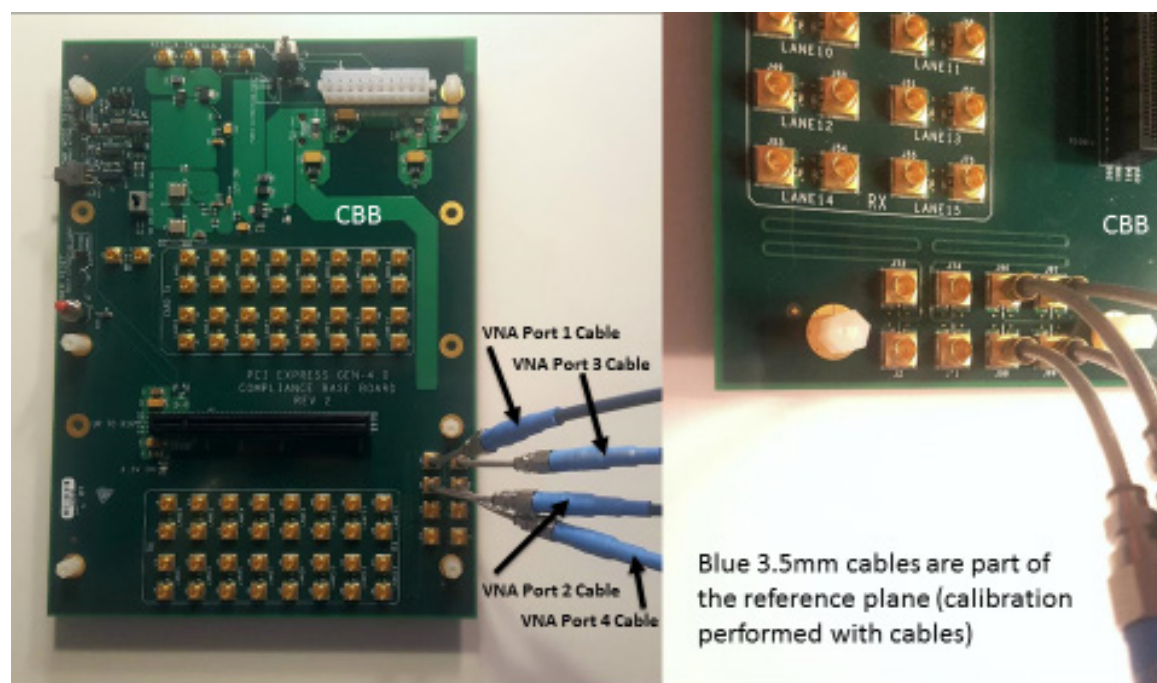
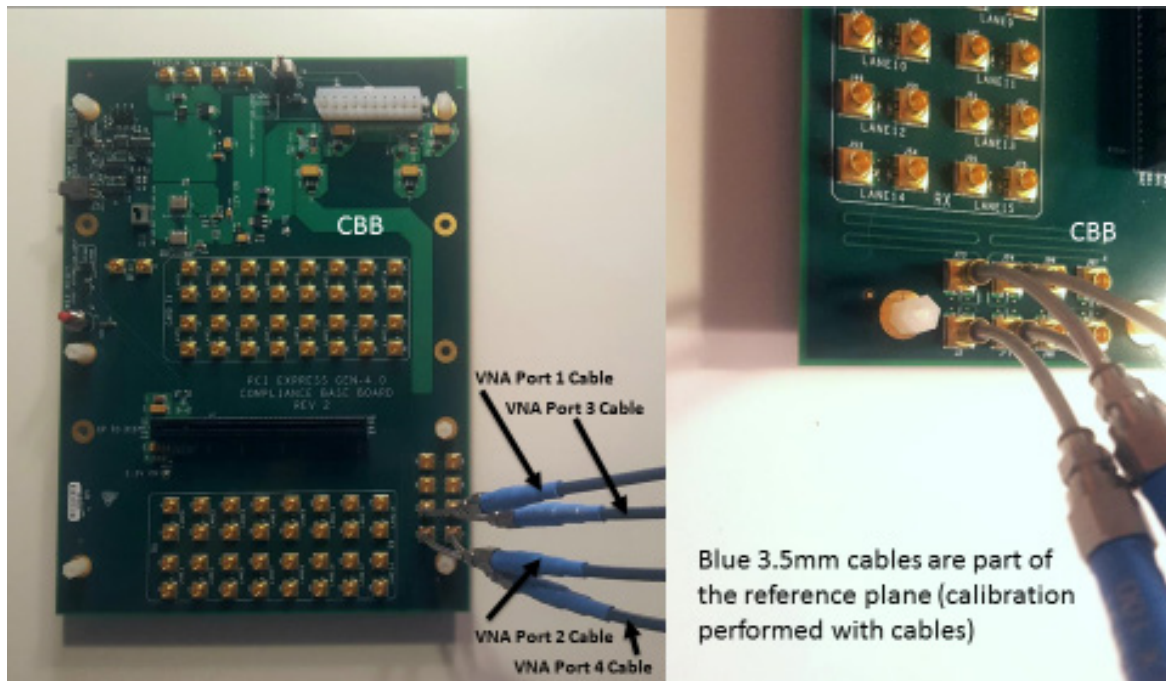

Figure 7. PCIe4.0 Fixture Characterization Insertion Loss per Inch (Short Trace)
Figure 8. PCIe4.0 Fixture Characterization Insertion Loss per Inch (Long Trace)
- ❑ Short and long trace measurements (see Figure 7 and Figure 8)